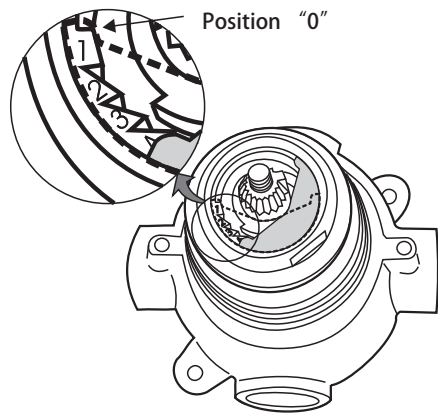

Figure 10. Setting the blend control
1. Remove the handle (1) by undoing the nut (2a) using the 10 mm A/F box spanner and removing the washer (2b). Pull off handle
3. Pull off shield (3).
4. The blend control stop (white crescent shaped plastic moulding) can then be removed. (In it's factory set position "0" - shown dotted in Figure 10 - it does not limit the lever handle movement so the highest
5. Insert the limit stop in position 4 (shown shaded in Figure 10)
9. Refit the shield (3) and handle (1) and check that the maximum blend temperature is still satisfactory.